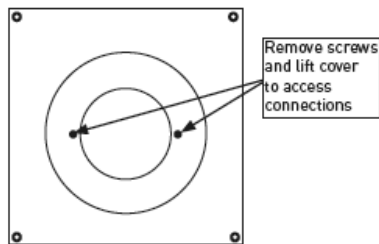

Fig. 2
- Remove the terminal cover by removing the two screws (see Fig. 2)